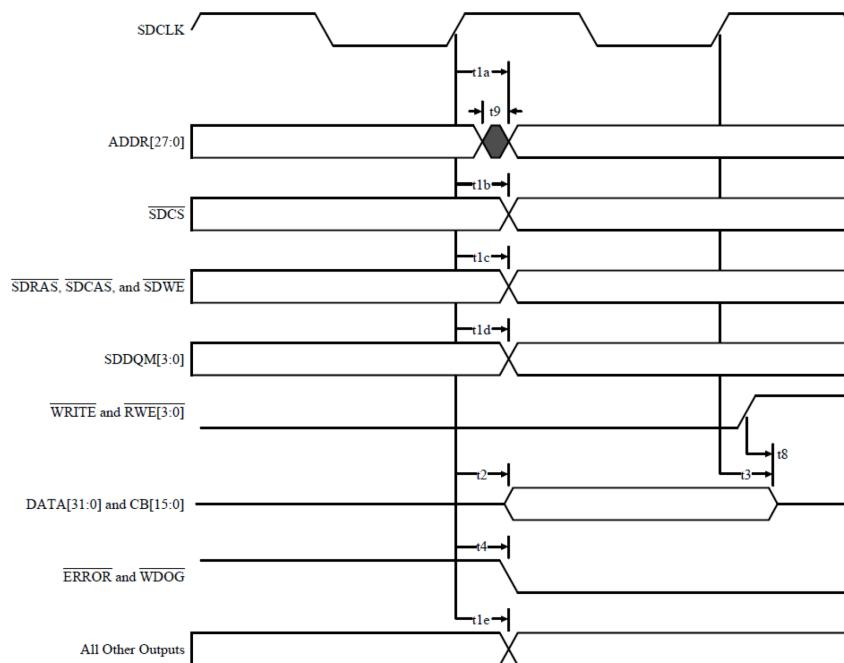

Figure 4:2: Memory Interface, ERROR, and WDOG Output Timing Diagram
1. All outputs are measured using the load conditions shown in Figure 4:12